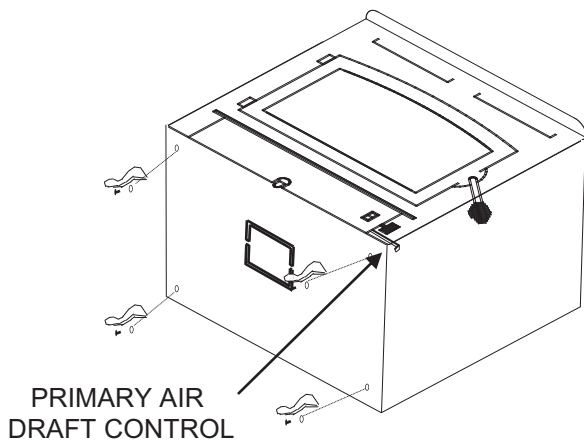

Figure 11
3. Check primary air draft control to ensure that it slides freely.(See Figure 11).
5. **(Leg Kit):** If legs are to be used, obtain four legs, attach legs to holes in bottom of unit with bolts and washers supplied with the leg kit. (See Figure 11).